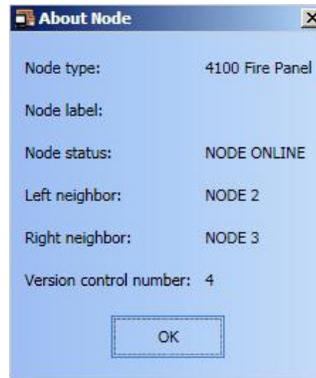

Figure 11-4 About Node Dialog Box
- To view node information: select a node in the fire panel network topology diagram and click **About Node**. The **About Node** dialog appears as shown in Figure 11-4.